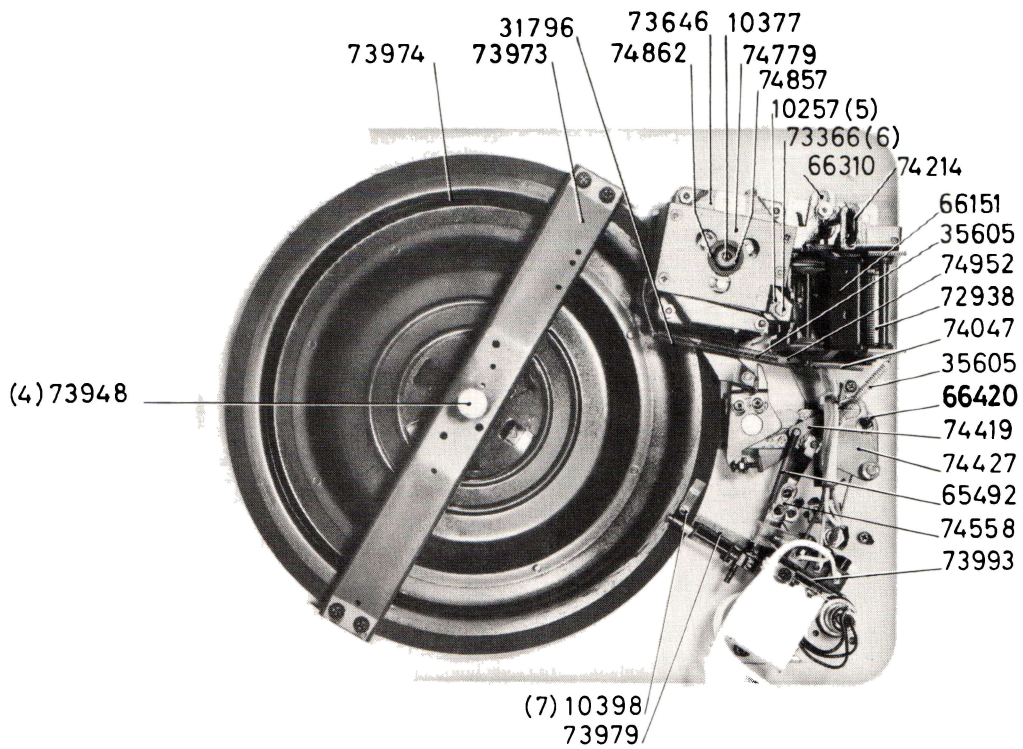

Fig. 2
SPELET MELLAN DEN LÖSA TALLRIKENS UNDERSIDA OCH DEN PÅ BASPLATTAN UPPRESSADE VÅRTAN SKALL VARA MIN. 1,2 MM. DETTA JUSTERAS GENOM VRIDNING AV 6-KANTSKRUVEN (4) FIG. 2 SEDAN LÅSMUTTERN LOSSATS.